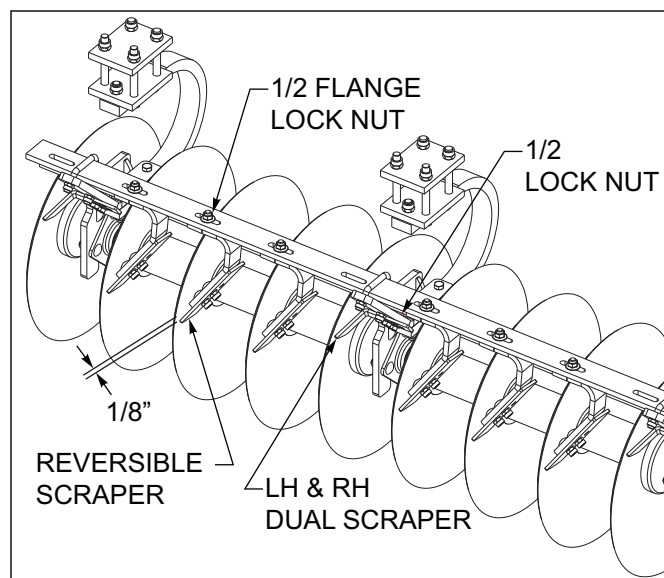

Figure 4-1: Disc Scraper Adjustment to Disc Blade
5. Check disc scrapers for proper adjustment to the disc blade **See Figure 4-1**. The scraper should be 1/8" from disc blade. To adjust the reversible scraper loosen the 1/2 flange nut and slide scraper arm until the 1/8" clearance is obtained. Repeat same procedure for the LH or RH dual scraper by loosening the 1/2 lock nut. Re-tighten all nuts. The scraper blades are reversible to allow extended use before replacement is required.